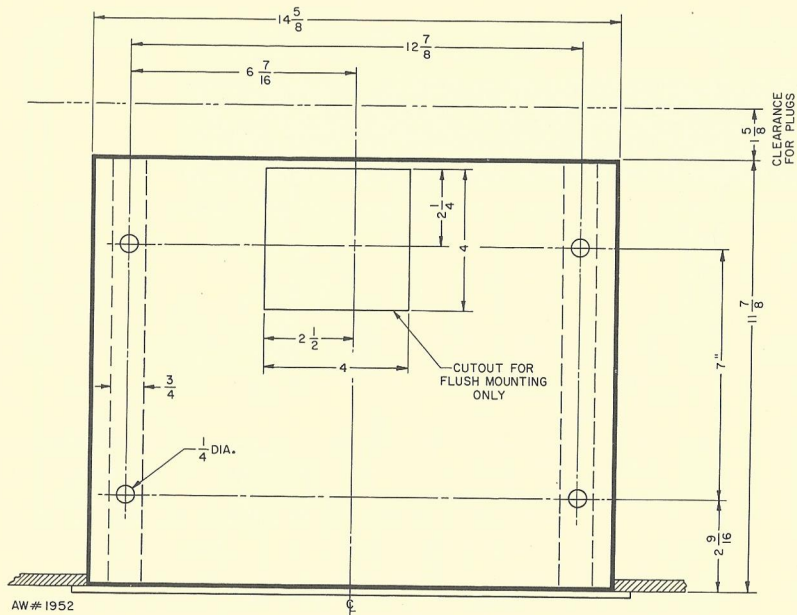

FIGURE 4. Top view of custom installation.
2 — Fasten the two cleats to the top of the mounting board with wood screws in the positions shown in Figure 4. The screw heads should be flush with the top of the cleats. Then locate and drill four  $\frac{1}{4}$ -inch holes through the mounting board and cleats as indicated.
- 1 — Locate and drill four holes in the mounting board of the cabinet as shown in Figure 4. These holes are  $\frac{1}{4}$  inch in diameter.